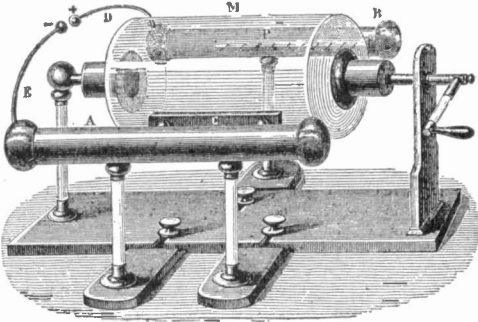

FIG. 108. EARLY METALLIC COMB MACHINE
But the most important addition to the early machine of Hawkesbee was a metallic comb or series of points that, as shown in Fig. 108, were connected with an insulated metallic cylinder (B), known as the prime conductor or positive conductor of the machine. A similarly insulated metallic cylinder (A) electrically connected with a piece of metal containing the leather cushion, forms the negative conductor. When these two conductors (A) and (B) were brought near together by rods, (E) and (D) on the turning of the handle of the machine, the friction of the rubber against the glass, produced a series of electric sparks.